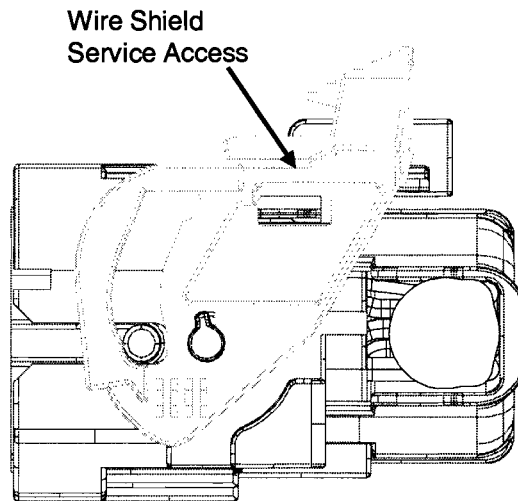

Figure 8-5A
1. Insert a service tool (such as a small screwdriver) into the service access window shown in Figure 8-5A.